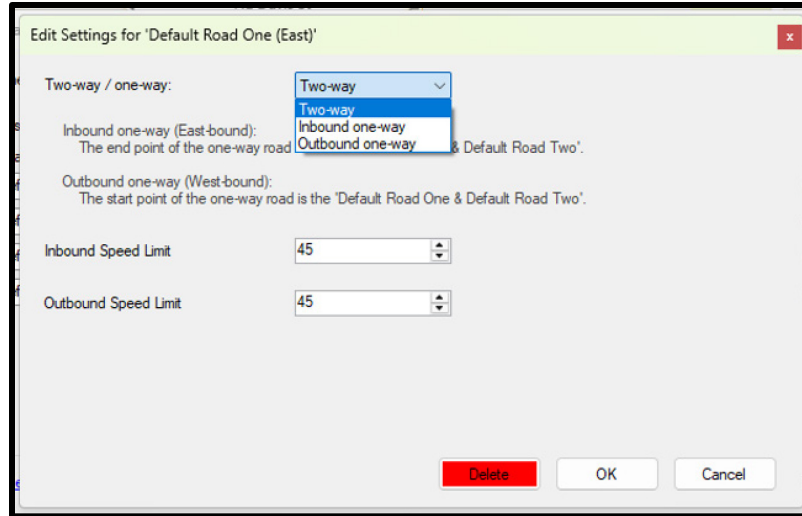

Figure 37: Intersection Settings
- iii) Users can also select the speed, direction and type of signalized intersection as shown in Figure 37.